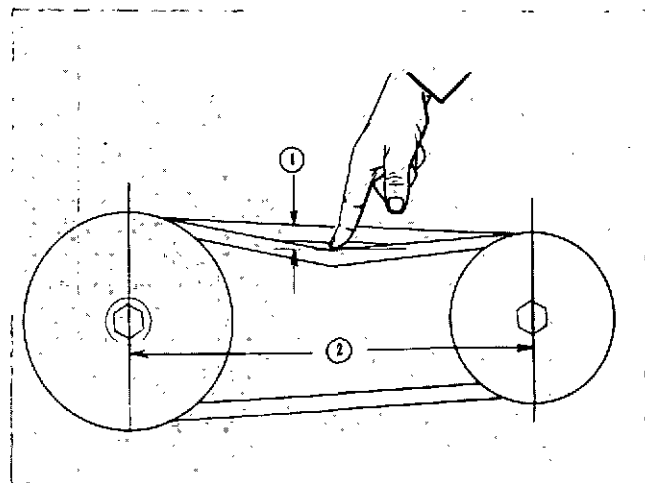

Fig. 2-27 (N11471) Checking belt tension manually
pressure of finger will depress belt amount of deflection in Table 2-4. The finger should be extended straight down from hand; in this manner, force will be approximately 13 lbs. [5.9 kg] deflection (1, Fig. 2-27) per foot [0.3 m] of span (2).
3. Deflection (1, Fig. 2-27) should equal amount indicated in Table 2-4 for each foot of belt span (2).